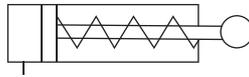

Fig. 1
- 1 (a) Fig.1 shows the symbol for a pneumatic cylinder.
- (i) Name the type of cylinder shown in Fig. 1.
(c) The cylinder shown in **Fig. 1** is required to produce a clamping force of 150 N.